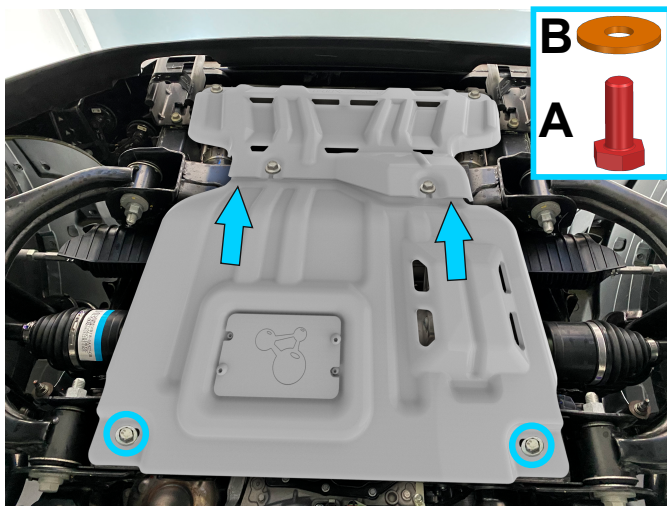

Fig. 3
2. Put the front part of engine skid plate (item 1) on installed bolts M10x25 and washers 10 from step 1 or above radiator skid plate or RIVAL radiator skid plate 2111.1884.1.3 / 2333.1884.1 / 2333.1884.1.6 on installed bolts. Fix the rear part of engine skid plate using bolts M10x25 (item A) and washers 10 (item B), as shown in fig.3.